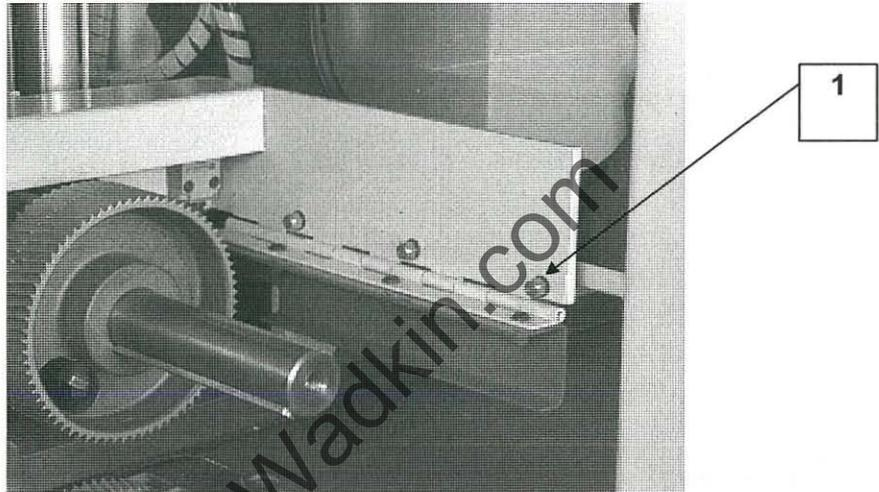

Figure 4.1.2
- 1 Infeed trip device (1) (see Figure 4.1.2) will trip the operation of the machine feed. The spindles will continue to run. This trip level is set through the height of the beam setting.